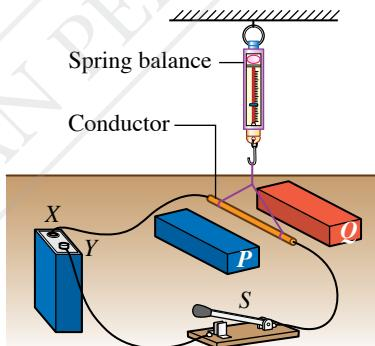

Figure 1
- Figure 1 shows a conductor hanging from a sensitive spring balance in between a pair of Magnadur magnets.